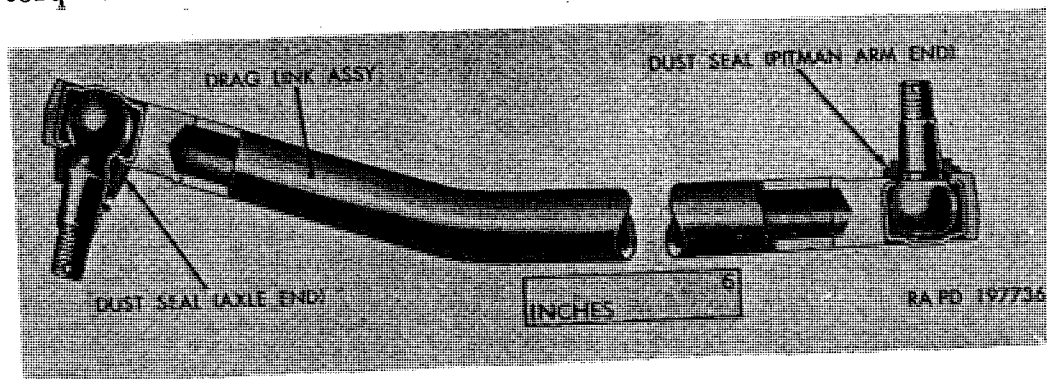

Figure 279. Steering drag link removed.
a. General. Tubular-type steering drag link connects pitman arm to steering arm on left steering knuckle of front axle with tapered ball studs and nuts. Ball studs are mounted in drag link ends in bearings which require no lubrication. Rubber dust seals (fig. 279) fit tightly around taper of each ball stud, and seal against drag link ends.